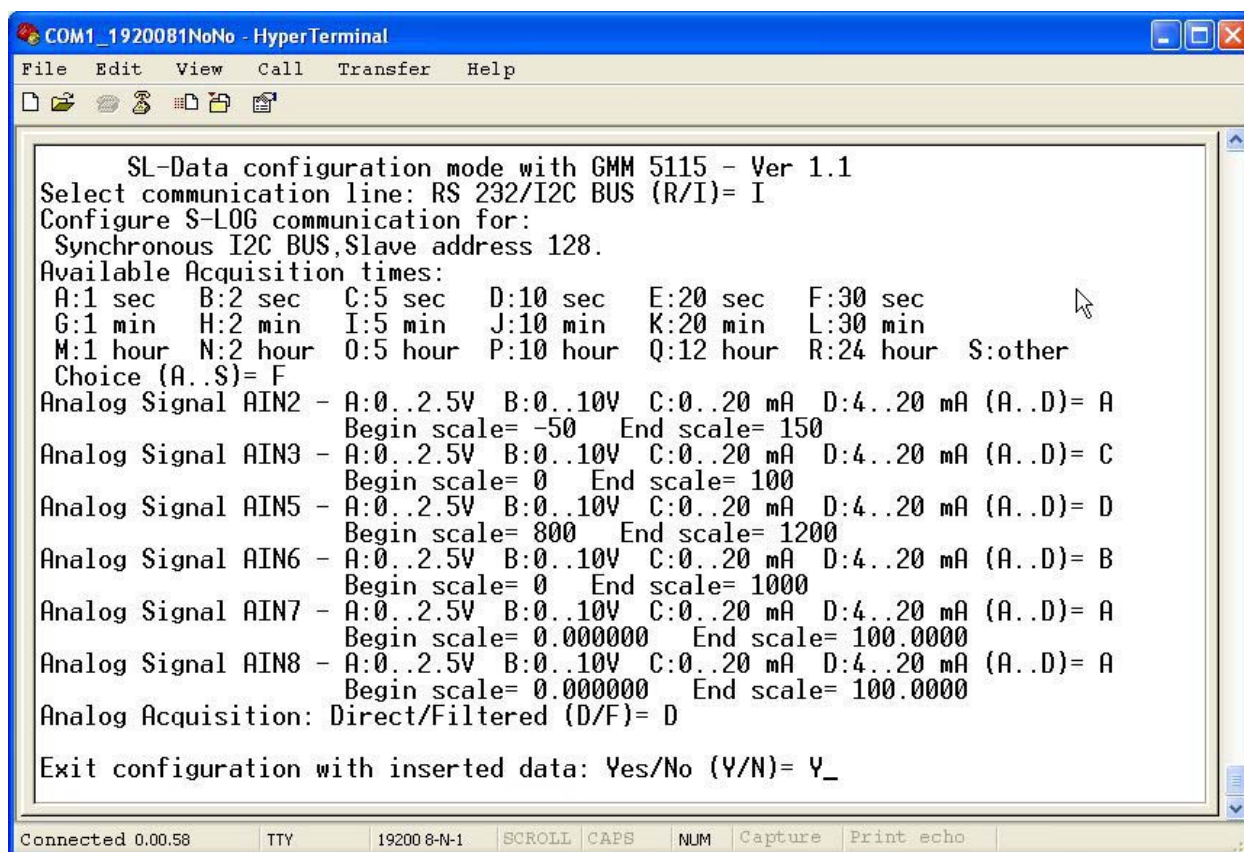

FIGURE 10: SETTINGS FOR ACQUISITION HW CONFIGURATION
- 9) It is important underline that the values reported in figure 10 are those required by the suggested application, that the not used signals have maintained the default settings, that acquisitions are direct and it has been selected the I2C BUS communication line.